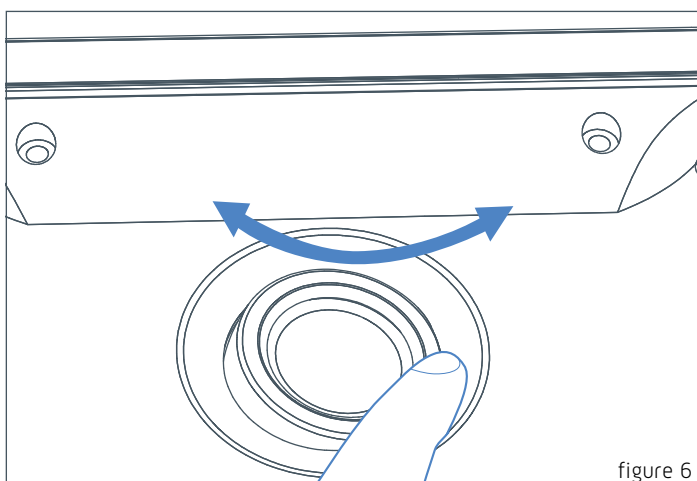

figure 6
- The Ecliptix features a pivoting tweeter which allows the high frequency sound to be directed as desired, depending on your environment and preference. Gently press on the round outer edge of the tweeter frame to tilt the tweeter to the desired position. Be careful not touch the tweeter dome, as this may damage to the tweeter. (Figure 6)